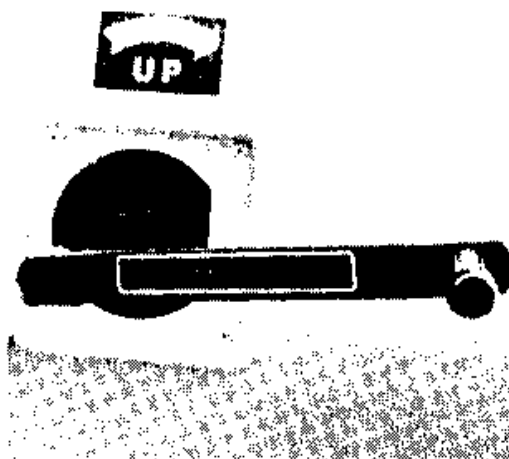

Fig. 2
- 2a. Insert the crank into the square tube and turn in a clockwise direction to raise. Fig. 2